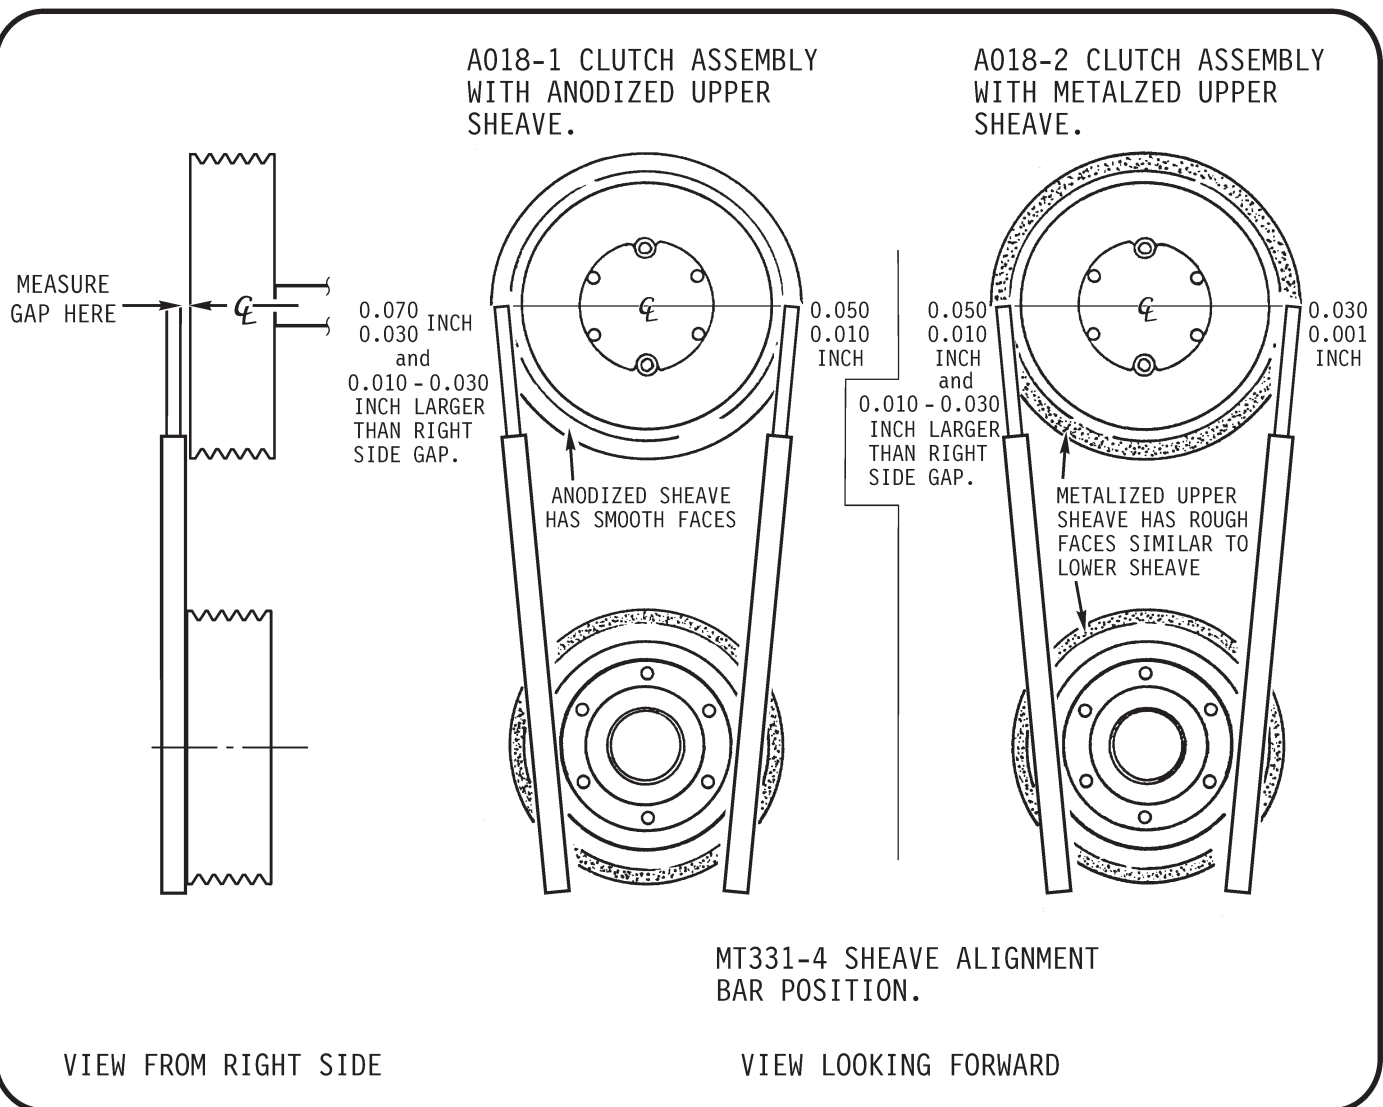

FIGURE 7-5 SHEAVE ALIGNMENT
5. Measure left and right gaps per Figure 7-5. Both gaps must be within noted limits and left gap must be 0.010–0.030 inch larger than right gap. If left gap is not 0.010–0.030 inch larger than right gap, adjust clutch lateral centering per § 7.250 or adjust engine shims.
2. Check sheave alignment on left and right side per Figure 7-5.